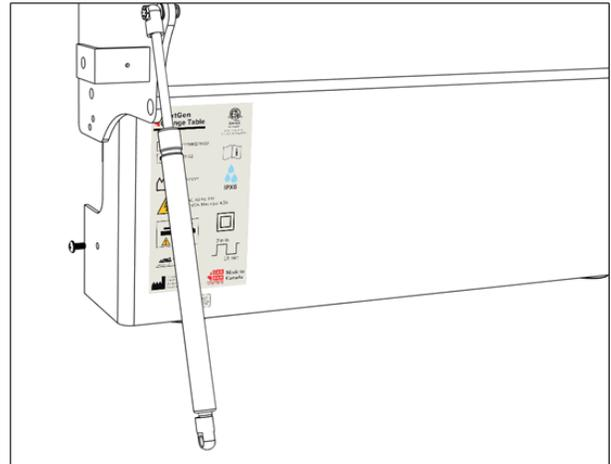

Figure 5 - Cover Bolt Location (bottom)
- Remove the two (2) ¼" pan-head bolts from the side of the cover (refer to Figure 5).